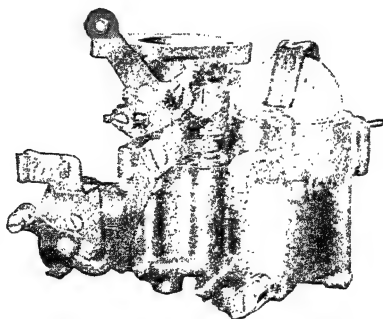

Fig. 59. Exterior View of the Standard "U" Carburetor Fitted with Vapor-Gas Feature
*Stromberg Vis-a-Gas.* A number of the Stromberg carburetors, notably the Model "U," are fitted with the Stromberg vis-a-gas. This little device has a transparent cover which goes over the carburetor bowl and contains within it a gasoline strainer. Every drop of gasoline entering the carburetor is strained of dirt and impurities, thus preventing the clogging of the small orifices and jets in the carburetor. This device may easily be drained or cleaned. It is shown in position on the Model "U" in Fig. 59.